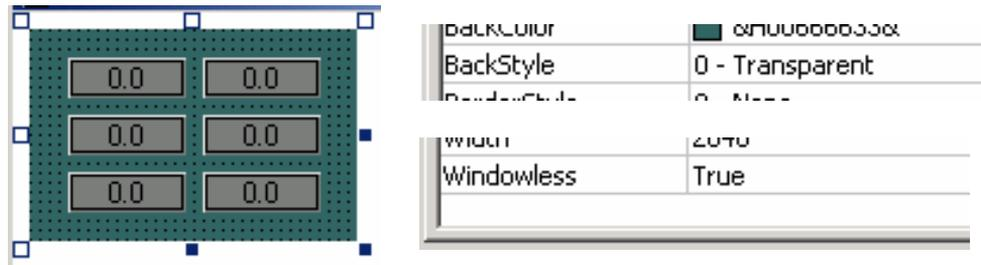

Figure 106. Increasing Performance of a Graphic Element
1. Click in an empty space in the design window to deselect any graphic element. The **design window** itself is to be selected. See Figure 106.